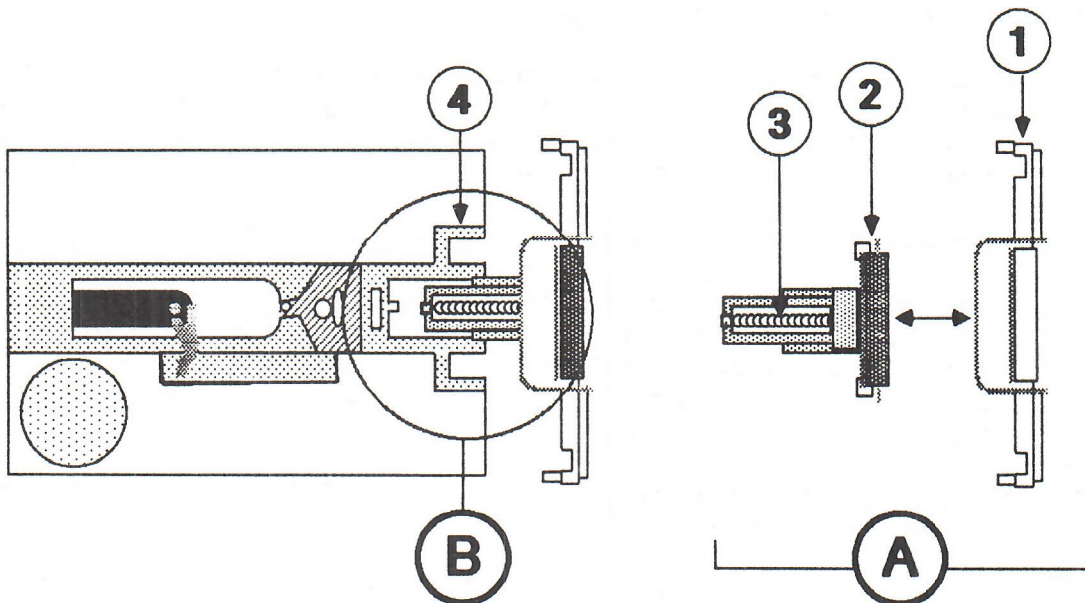

FIGURE 10
1. Put the door in the bezel. (See Figure 10, detail A.)
2. Hold the door and bezel together. Slide the projecting part of the door partway into the grooves of the hub frame (Figure 10, detail B).